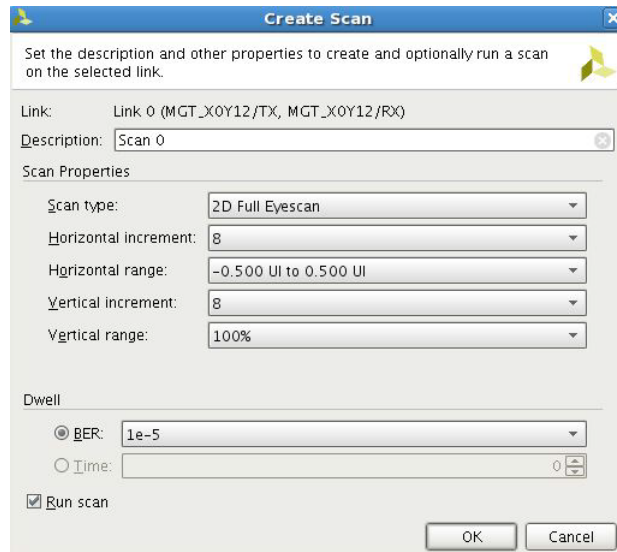

Figure 4-6: Create Scan
6. Right click on link and select **Create Scan**. The **Create Scan** dialog displays as shown in Figure 4-6.